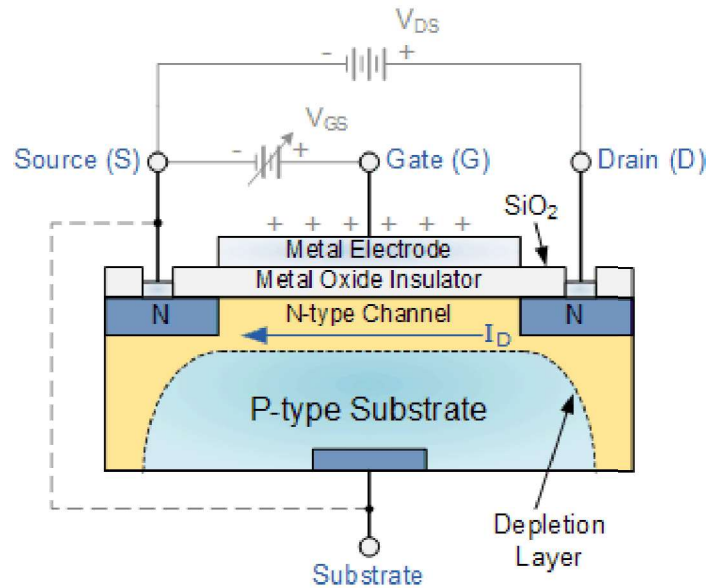

Fig. 4.2 Working of FET
The current-carrying path that exists between the source and drain terminals is known as “channel” which can be composed of either N-type or P-type semiconductor material. Refer to Figure 4.2 for working of FET.
- When a JFET is connected to a supply with the polarity shown in Figure 4.2 (drain +ve for an n-channel FET, -ve for a p-channel FET), a drain current (I_D) flows and can be controlled via a gate-to-source bias voltage V_{GS} .